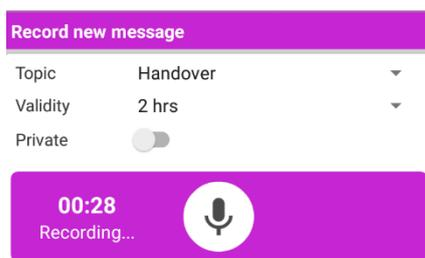

Fig 100
- keep pressed the button  as indicated in Fig 100: